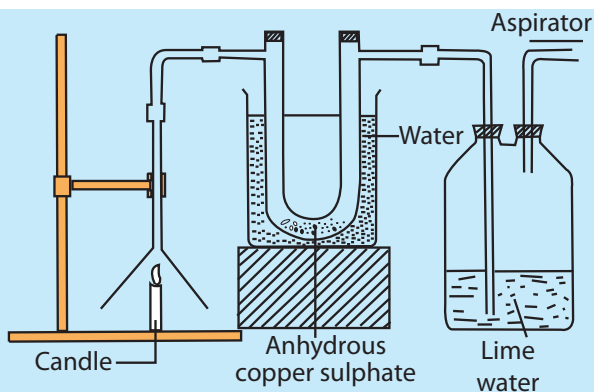

Figure 8.9 ▲
- Arrange the apparatus as shown in Figure 8.9. Connect the boiling tube/bottle with lime water to the aspirator. Light the candle and operate the aspirator. When the aspirator works an air current is drawn through the apparatus from the funnel to the boiling tube.